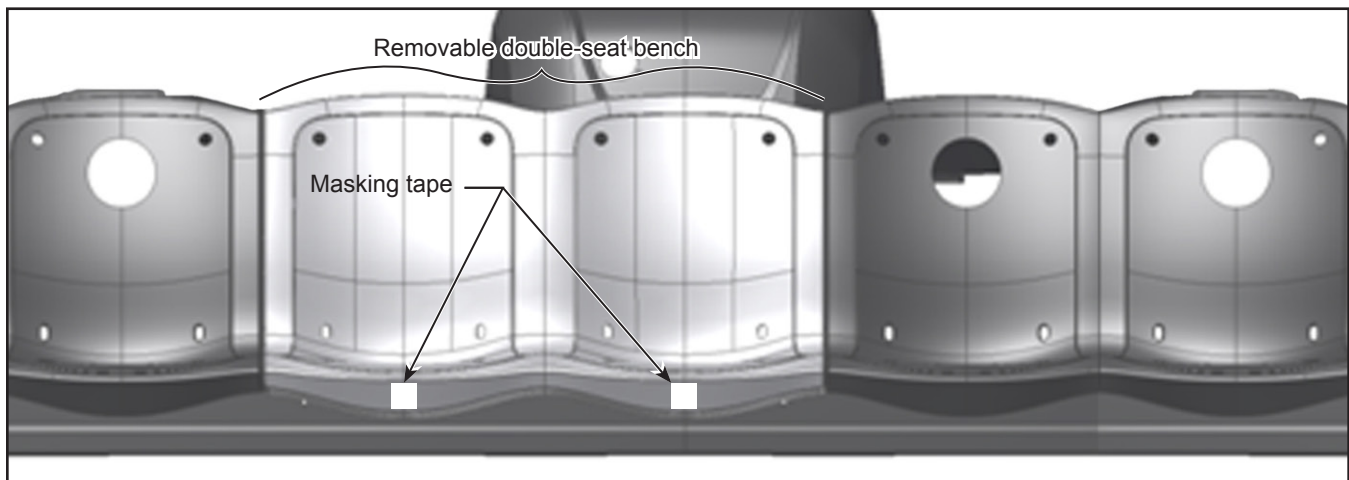

Figure 2 - Rear 5-seat Bench
- 1.5. Apply a strip of 1" masking tape centered over the front edge of both seats of the removable double bench. See Figure 2.